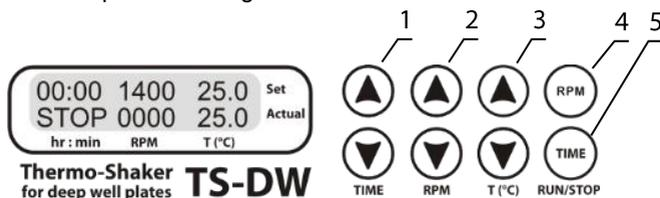
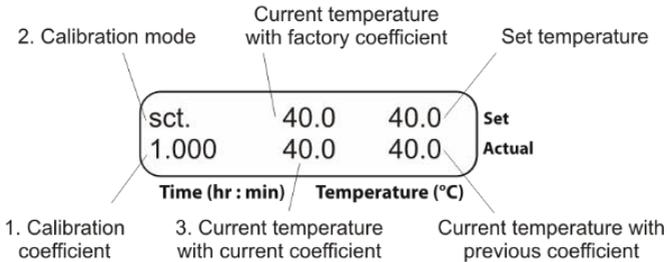
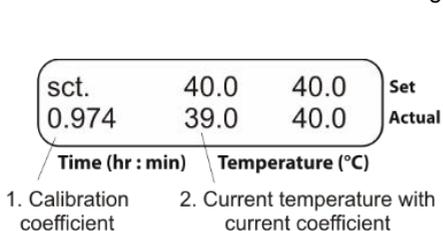

Fig. 2. Control Panel
Fig. 3. Display in calibration mode
Fig. 4. Changing calibration coefficient
- 4.3.1. **Setting time (TIME).** Using the ▲ and ▼ TIME keys (fig. 2/1) set the required working time interval in hours and minutes (increment 1 min).
- 4.3.2. **Setting speed (RPM).** Using the ▲ and ▼ RPM keys (fig. 2/2) set the required speed (increment 10 rpm).
- 4.3.3. **Setting temperature (T, °C).** Using the ▲ and ▼ T (°C) keys (fig. 2/3) set the necessary temperature (increment 0.1°C).
4.4.2. Press the **RPM RUN/STOP** key (Fig. 2/4). The platform will start rotating and the timer indicator will start counting the time interval (with 1 min precision).
4.7. If required, there is possibility to restart the timer when it is running. Press the **TIME RUN/STOP** key once (Fig. 2/5) to stop the timer. Press the **TIME RUN/STOP** key again to restart the timer.
Caution! At the end of the set time period the platform movement is stopped automatically, but the heating can be stopped only manually by reducing the temperature using the **▼ T (°C)** key (Fig. 2/3 - lower button) till the OFF sign appears in the upper line (Set) of the display
- 5.2. To change the calibration coefficient, hold the **TIME RUN/STOP** key (fig. 2/5) pressed for more than 8 s to activate calibration mode. The calibration coefficient appears on the display (fig. 3/1).
- 5.3. **Restoring factory settings.** Set 1.000 value using the **▲** and **▼ T (°C)** keys (fig. 2/3) as shown on fig. 3/1 to restore the factory settings. Press the **RPM RUN/STOP** key (fig. 2/4) once to save the changes and exit the calibration mode.
- 5.4.5. Hold **TIME RUN/STOP** key (fig. 2/5) pressed for more than 8 s to activate calibration mode. The following parameters will be shown on the display (fig. 3):
- 5.4.6. Using the **▲** and **▼ T (°C)** keys (fig. 2/3), change the calibration coefficient (fig. 4/1) so that the new current temperature value (fig. 4/2) corresponds to the independent sensor temperature. In our example, the calibration coefficient will be 0.974.